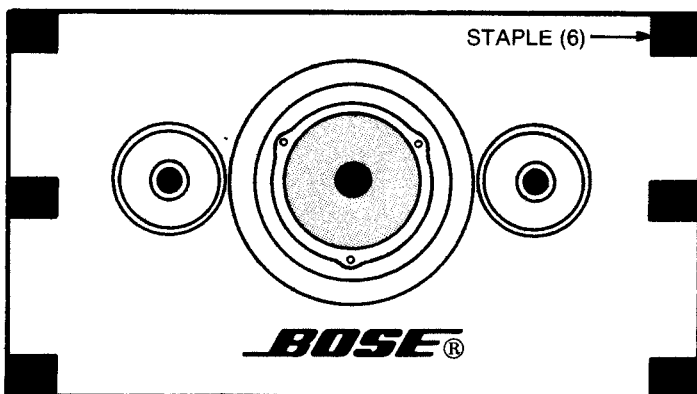

Figure 3 Front Grille Attachment
- 2. REMOVING THE FRONT GRILLE** — The front grille of the 901 Series III speaker system is secured by staples located in six positions along the front grille. (See Figure 3). Remove the staples and lift the grille panel away from the cabinet assembly. The grille panels can be reattached using colored finishing nails.